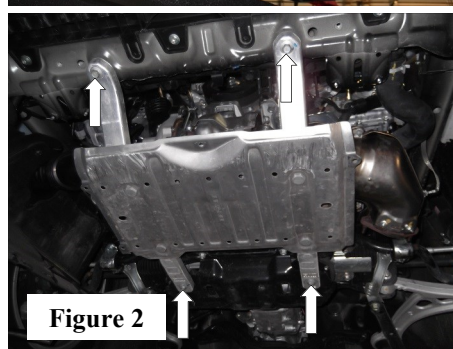

Figure 2
4. Remove 4-bolts from heat shield under the down pipe, and remove from vehicle. (See Fig. 2)